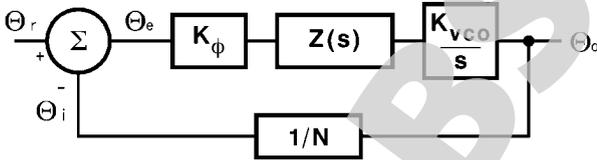
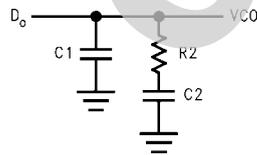

FIGURE 2. PLL Linear Model
FIGURE 3. Passive Loop Filter
A linear control system model of the phase feedback for a PLL in the locked state is shown in Figure 2. The open loop gain is the product of the phase comparator gain (K_{ϕ}), the VCO gain (K_{VCO}/s), and the loop filter gain $Z(s)$ divided by the gain of the feedback counter modulus (N). The passive loop filter configuration used is displayed in Figure 3, while the complex impedance of the filter is given in Equation 1.